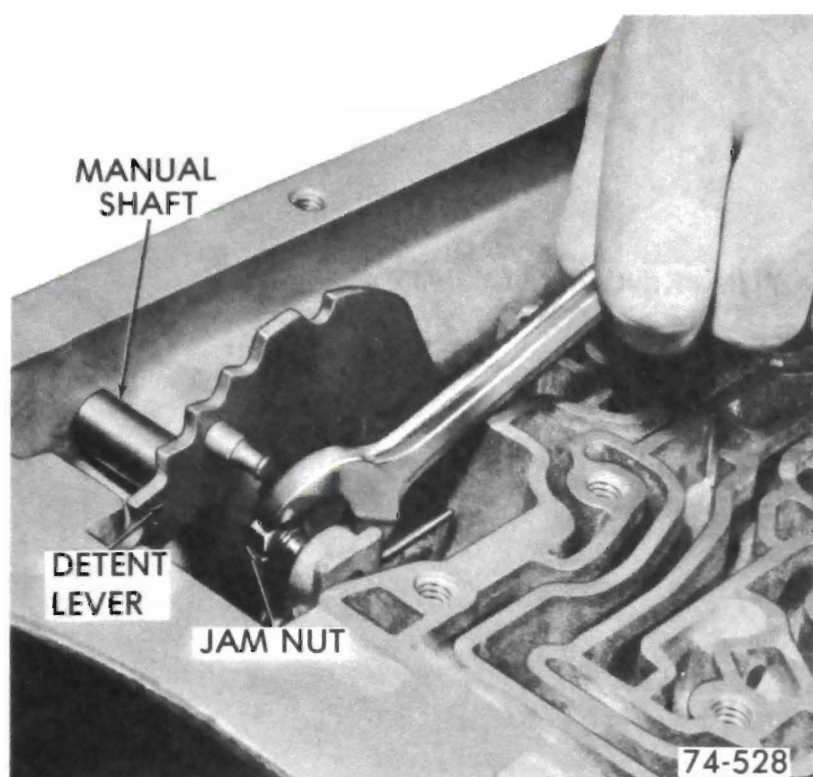

Figure 76-73
a. Unthread jam nut holding detent lever to manual shaft. Do not lose jam nut as it becomes free from shaft. See Figure 76-73.